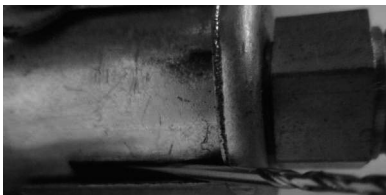

Figure 1
1. Ensure the air shutter is set to the specification. **See Figure 1 and Tables 1 and 2 on page 7.**